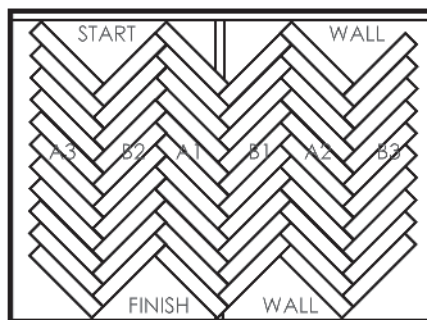

Fig 8.
- Continue with all B planks and repeat on the other side of the original "B" planks with "A" planks. Complete the room repeating the same method making sure to keep the expansion spacers in place and the pattern square (Fig 8.).